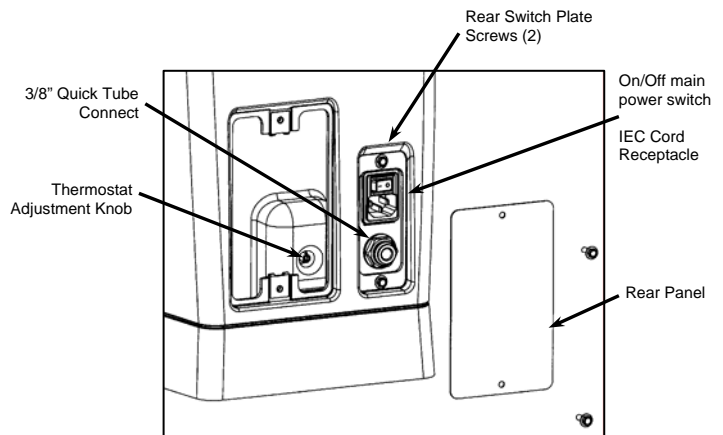

Figure 5
2. Remove (2) screws and rear panel (see figure 5).
3. Use a bladed screwdriver to adjust the thermostat knob (see figure 5). Turn clockwise for hotter water temperature and counter clockwise for cooler water temperature.
4. Replace rear panel and (2) screws.
2. Disconnect the power cord from both the electrical outlet and the IEC plug located at the rear of the brewer (see figure 5).
3. Disconnect 3/8 inch supply tube from quick tube connect (see Figure 5).
5. Remove (2) screws and rear panel (see figure 5).
13. Remove (2) screws from rear switch plate (see figure 5).
1. Disconnect the power cord from both the electrical outlet and the IEC plug located at the rear of the brewer (see figure 5).